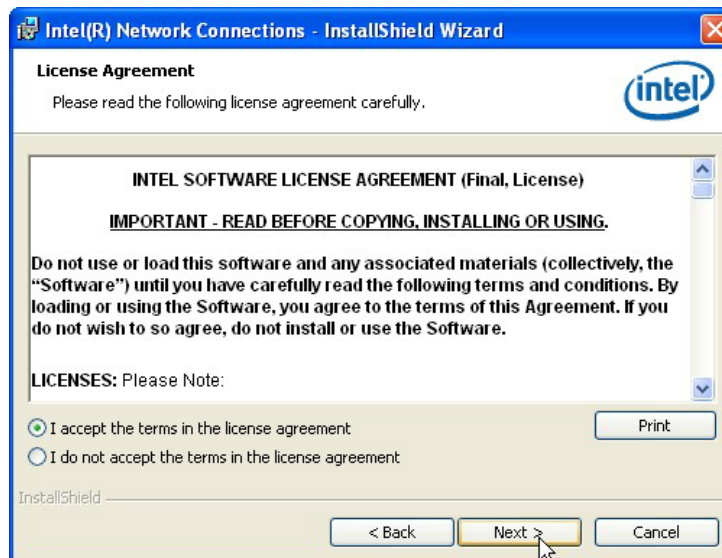

Figure 6-17: LAN Driver License Agreement
Step 8: The **License Agreement** in **Figure 6-17** appears.